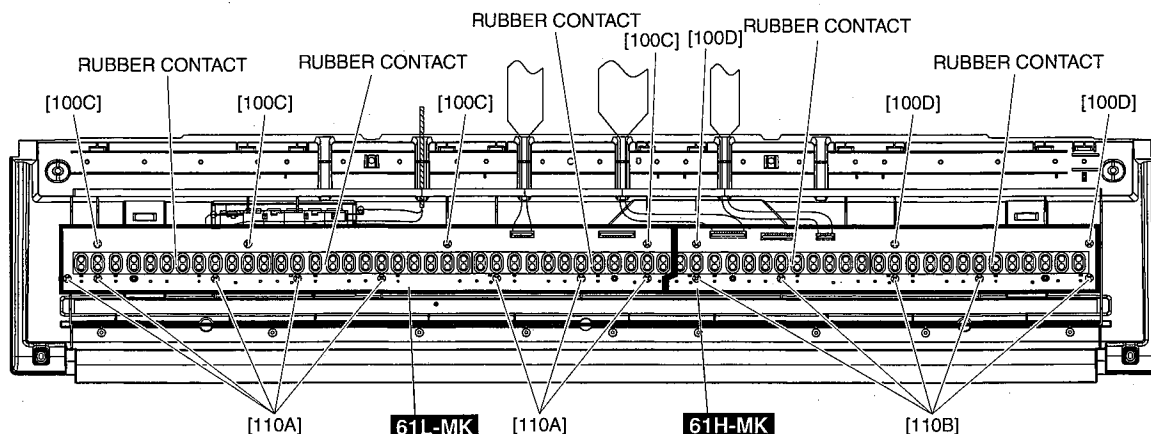

Fig. 11
- 14-4-2. Remove the rubber contacts. (Photo 2, Fig. 11)
- 14-5-2. Remove the four (4) screws marked [100C] and eight (8) screws marked [110A]. The circuit board 61L-MK can then be removed. (Fig. 11)
- 14-6-2. Remove the three (3) screws marked [100D] and five (5) screws marked [110B]. The circuit board 61H-MK can then be removed. (Fig. 11)